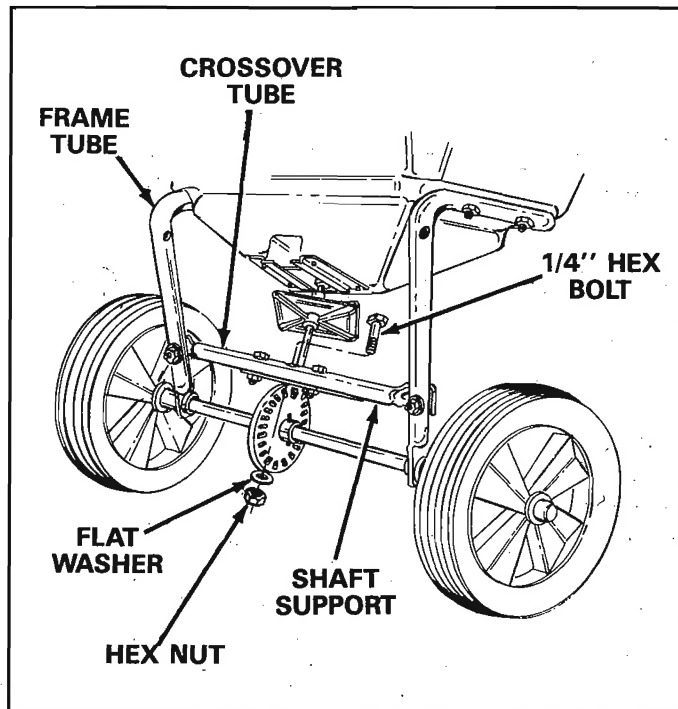

FIGURE 7
9. Remove the 1/4" hex bolt, flat washer and hex lock nut from the center of the crossover tube. See figure 7.
10. Place the handle tube (long) on the crossover tube, align the holes in hitch tube, crossover tube and shaft support, assemble with 1/4" hex bolt, flat washer and hex nut, removed in step 8. See figures 7 and 8. **MAKE ONLY FINGER TIGHT AT THIS TIME.**